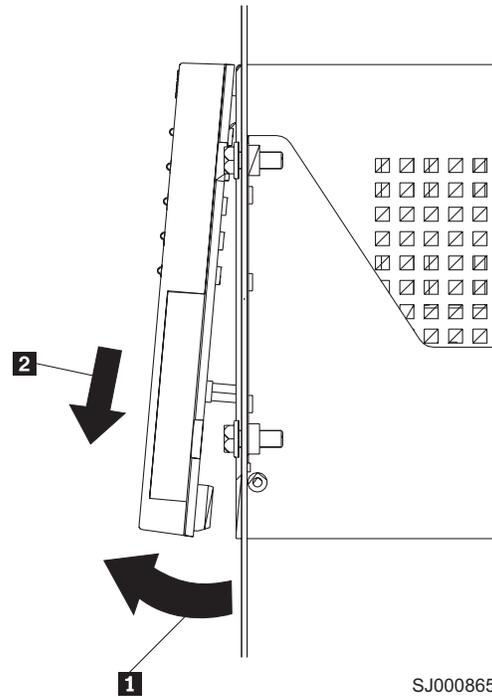

Figure 7. Removing the controller-unit bezel (machine types 3552 and 1742)
1. Remove the front bezel from the controller unit, as shown in Figure 7 on page 18. Carefully pull the bottom of the bezel out **1** to release the pins; then,